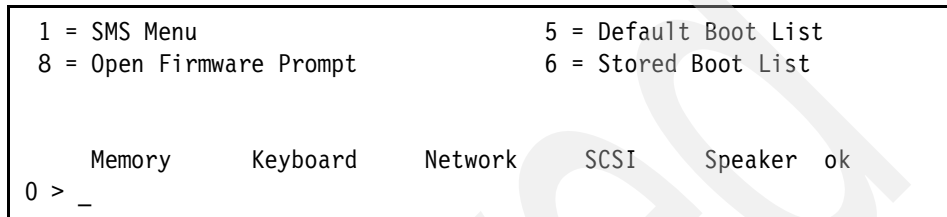

Figure 7-20 Open Firmware prompt
4. Type 8 during the LPAR boot process to go to the Open Firmware prompt, as shown in Figure 7-20.